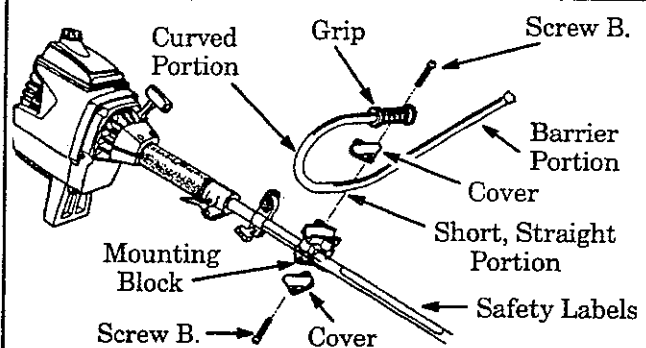

Figure 3
1. Position the mounting block on the tube above the arrow on the safety labels. Figure 3.
2. Place one of the covers under the tube. Figure 3. Attach the cover to the mounting block with 2 screws "B."; finger tighten only.
3. Align the handlebar with the straight barrier portion to the left and the curved portion to the right as shown in Figure 3.
5. Place the other cover on top of the tube. Figure 3. Attach the cover to the mounting block with 2 screws "B."; finger tighten only.
The barrier portion of the handlebar must be installed as shown in Figure 3 to provide a barrier between operator and spinning blade.